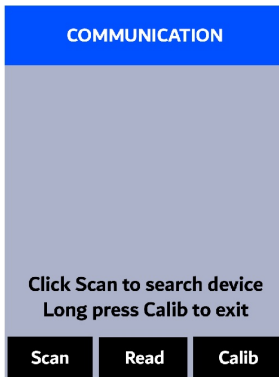

Figure 11.
3. Press **Comm** (**>**) to launch the **COMMUNICATION** screen (Figure 11).